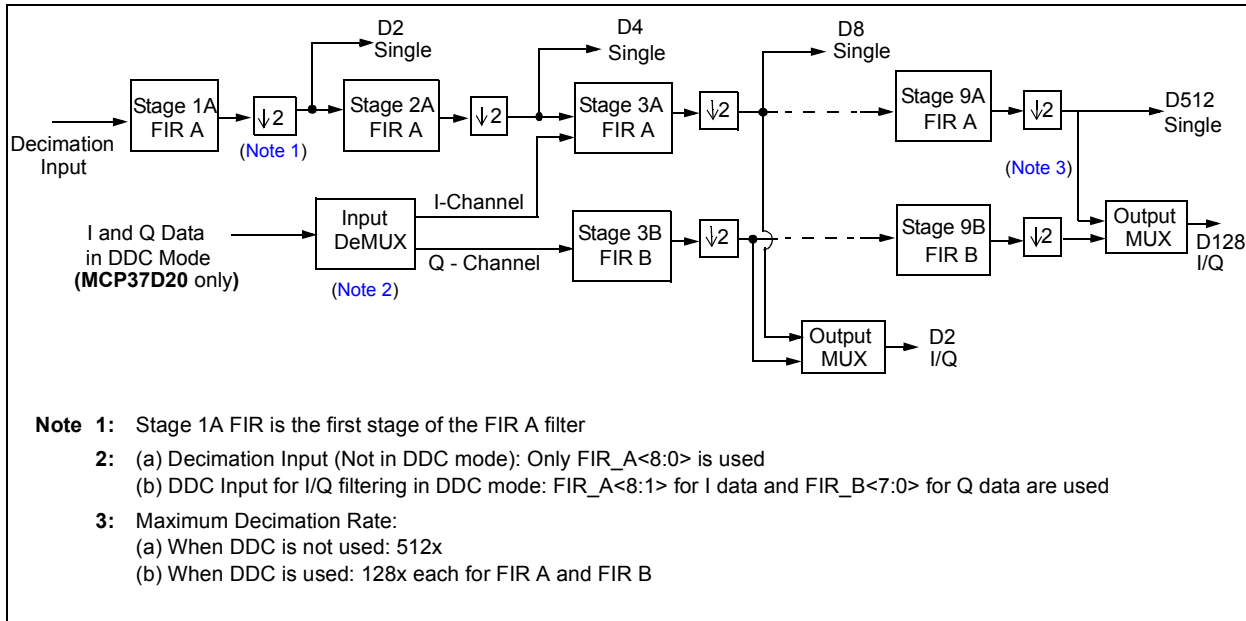

FIGURE 4-12: Simplified Block Diagram of Decimation Filters.
Figure 4-12 shows a simplified decimation filter block diagram and Table 4-10 summarizes the related control parameters for using decimation filters.
- **MCP37D20-200:** (a) When DDC mode is not required, only FIR A is used. (b) When digital down-conversion (DDC) is used for I and Q data filtering, both FIR A and FIR B filters are used (see Figure 4-12). In this case, both are set to the same decimation rate. Note that stage 1A in FIR A is unused: the user must clear FIR_A<0> in Address 0x7A (Register 5-34).